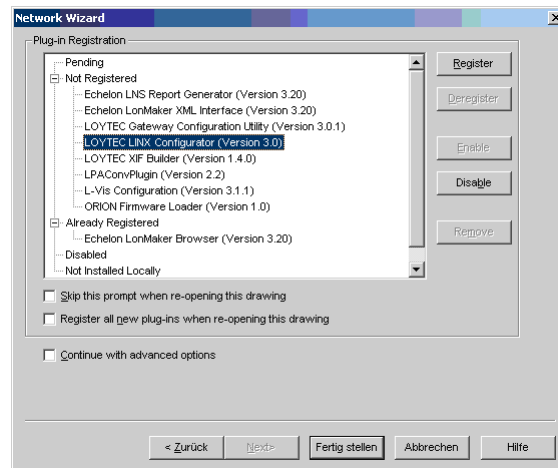

Figure 80: Select the Plug-in to be registered
2. Click **Next** until the plug-in registration tab appears in the Network Wizard. Select the **LOYTEC LINX Configurator (Version X.Y)** from the list of **Not Registered** (see Figure 80).